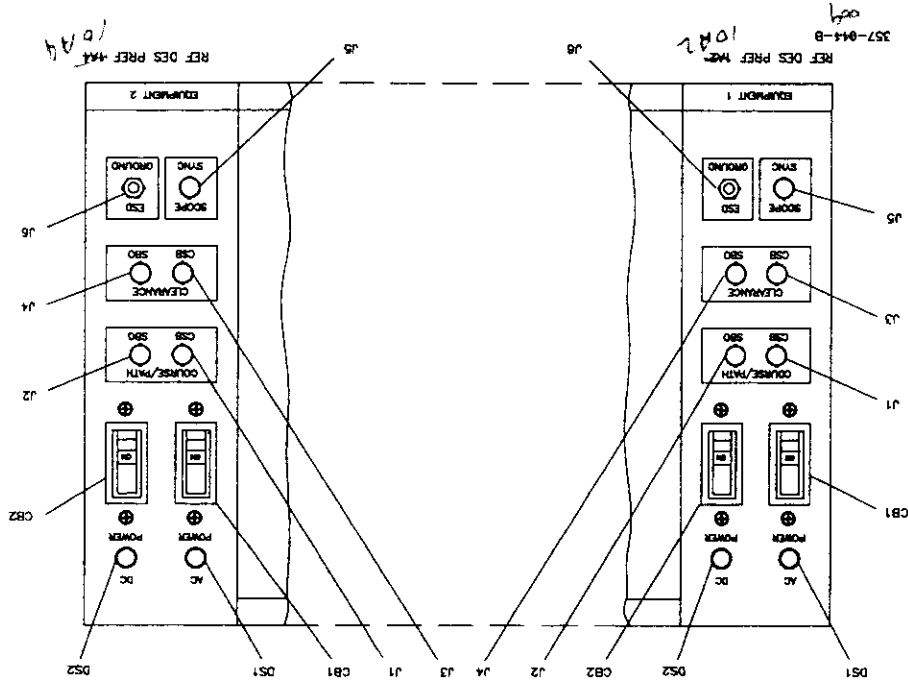

Figure 3-1. Glide Slope AC-DC Switch Module Assemblies 10A2/10A4, Controls and Indicators
3.2 CONTROLS AND INDICATORS. - Operator controls and indicators are shown in figures 3-1 through 3-6 and listed in tables 3-1 through 3-6.